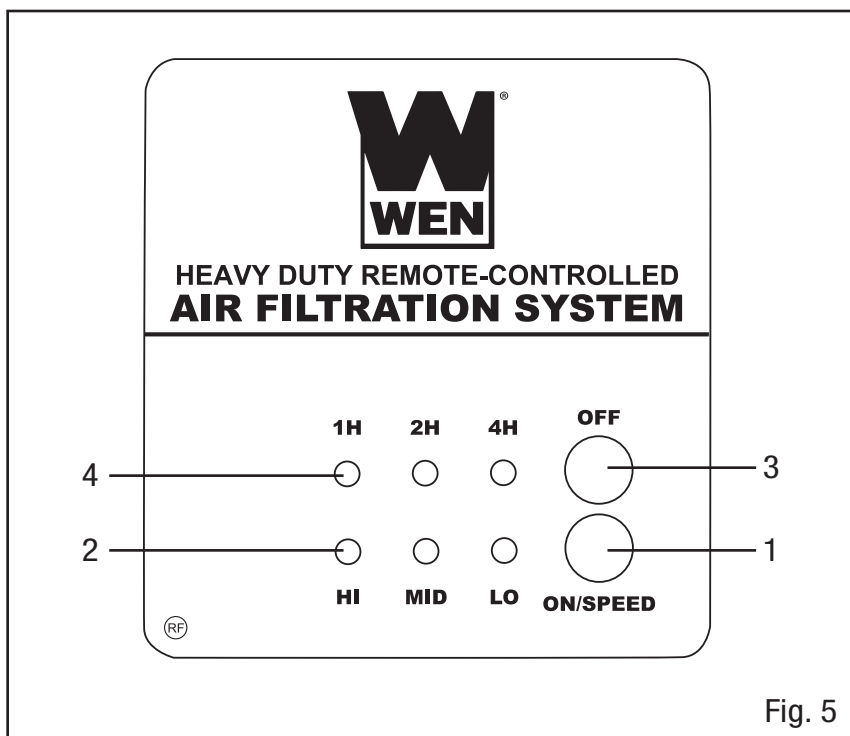
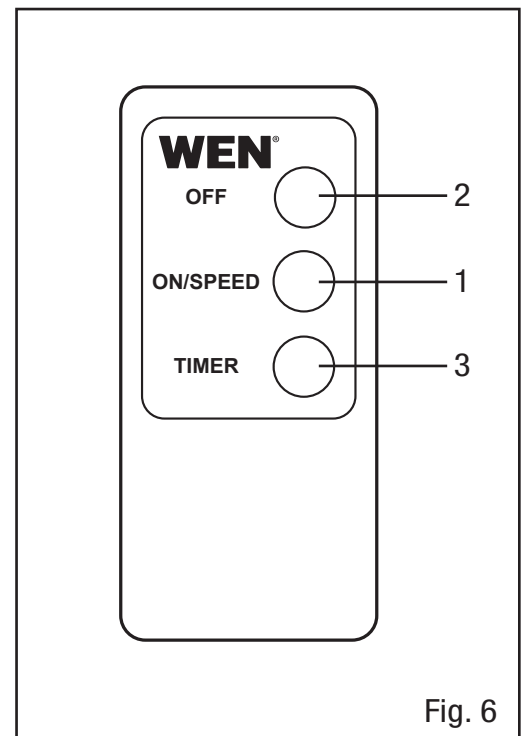

Fig. 5
Fig. 6
TURNING ON/OFF AND SETTING THE SPEED (FIG. 5 & 6)
2. Press the ON/SPEED button on the control panel (Fig. 5 - 1) or the remote control (Fig. 6 - 1) to power on the air filtration system. The air filtration system will start running at low speed. The "LO" LED will light up on the panel, indicating that the unit is operating at low speed.
3. The ON/SPEED button also controls the three different settings of the unit. Press the button to change the speed. The LED lights (Fig. 5 - 2) on the control panel will light up to indicate the selected speed - low speed (LO), medium speed (MID) or high speed (HI).
4. Press the OFF button on the control panel (Fig. 5 - 3) or the remote control (Fig. 6 - 2) to turn off the unit.
SETTING THE TIMER (FIG. 5 & 6)
1. Press the TIMER button (Fig. 6 - 3) on the remote control to start the timer. The cycle is 1 hour, 2 hours, 4 hours and clear the timer.
2. The LED lights (Fig. 5 - 4) on the control panel will indicate the amount of time selected. The unit will shut off automatically after the selected time interval elapses. When you clear the timer (no timer lights are showing), the air filtration system will keep running until it is turned off manually by pressing the OFF button.